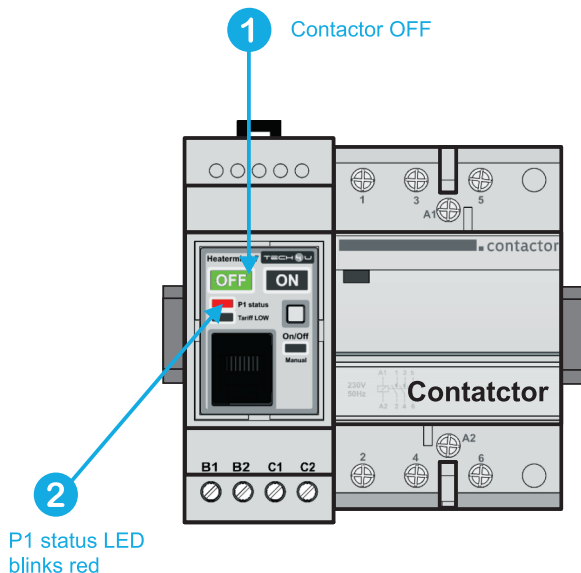

Figure 6. Powering up.
Connect the HRM-701 to the smart meter using the included RJ-12 cable ① as shown in the figure 6 below: